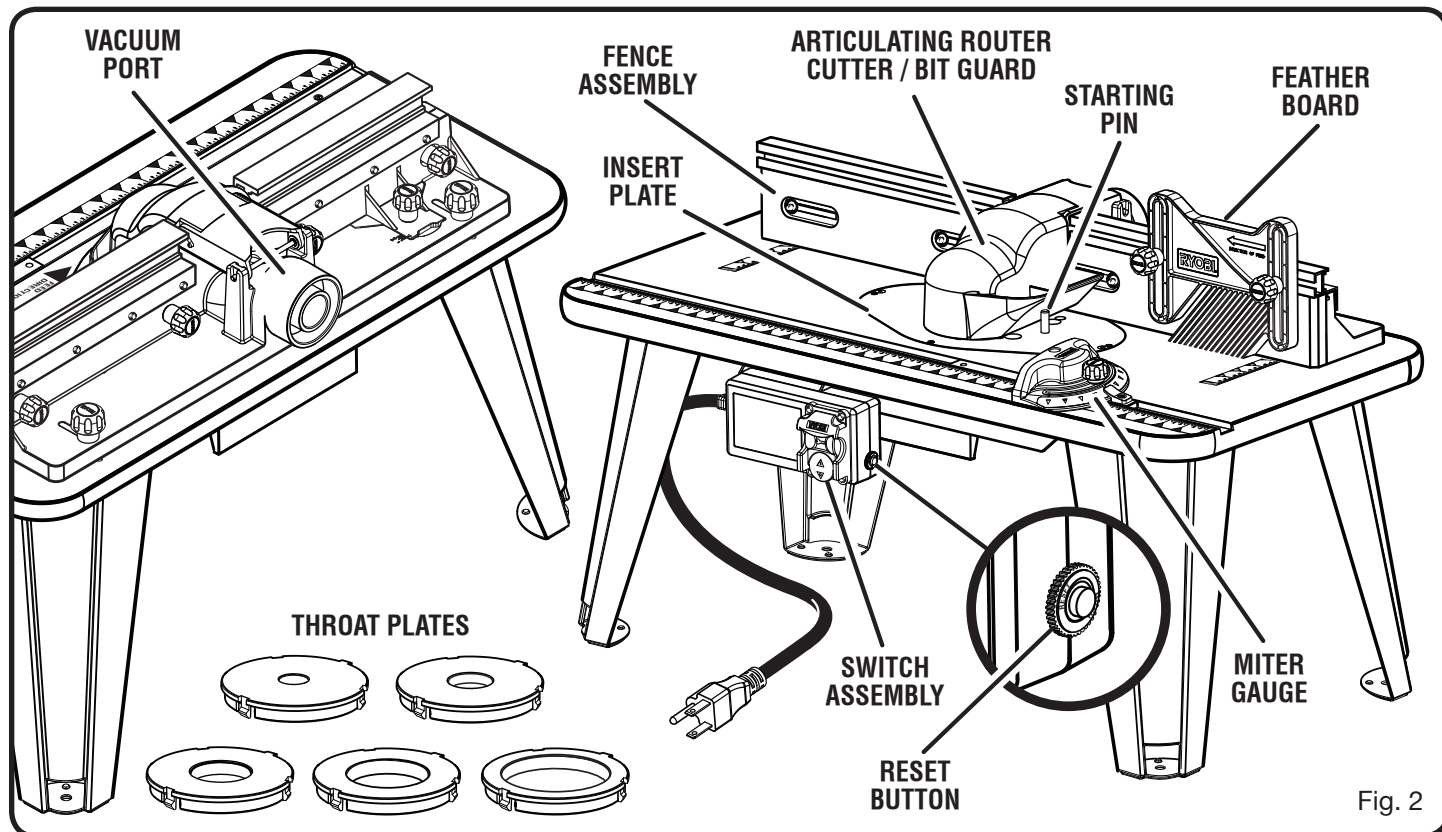

Fig. 2
See Figure 2.
- With the switch key inserted into the switch, lift the switch to turn **ON (I)**.
**NOTE:** The router table is equipped with a reset button ( See Figure 2). If, for any reason, the router table will not turn on, press the reset button and then restart.